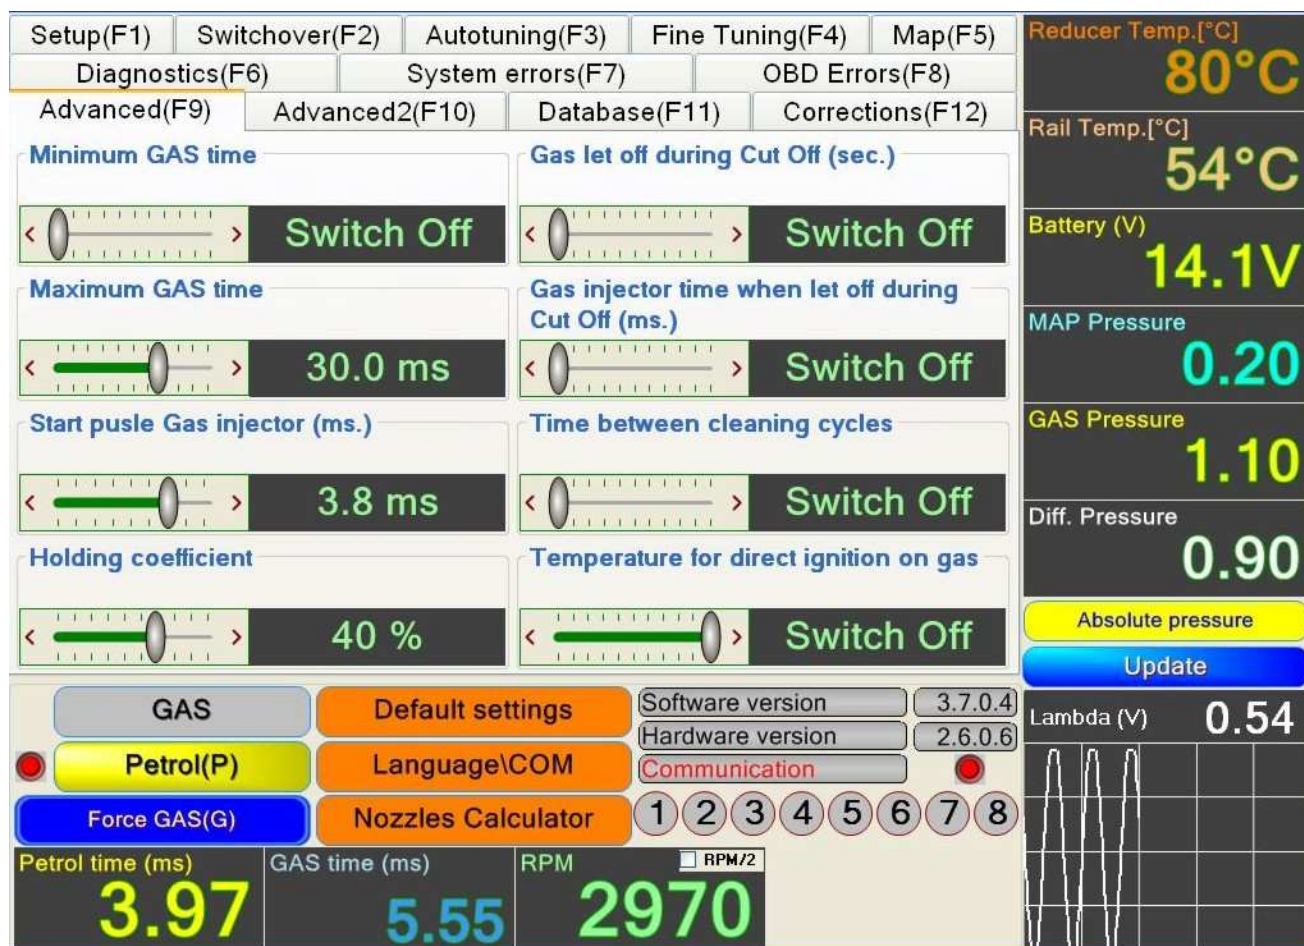
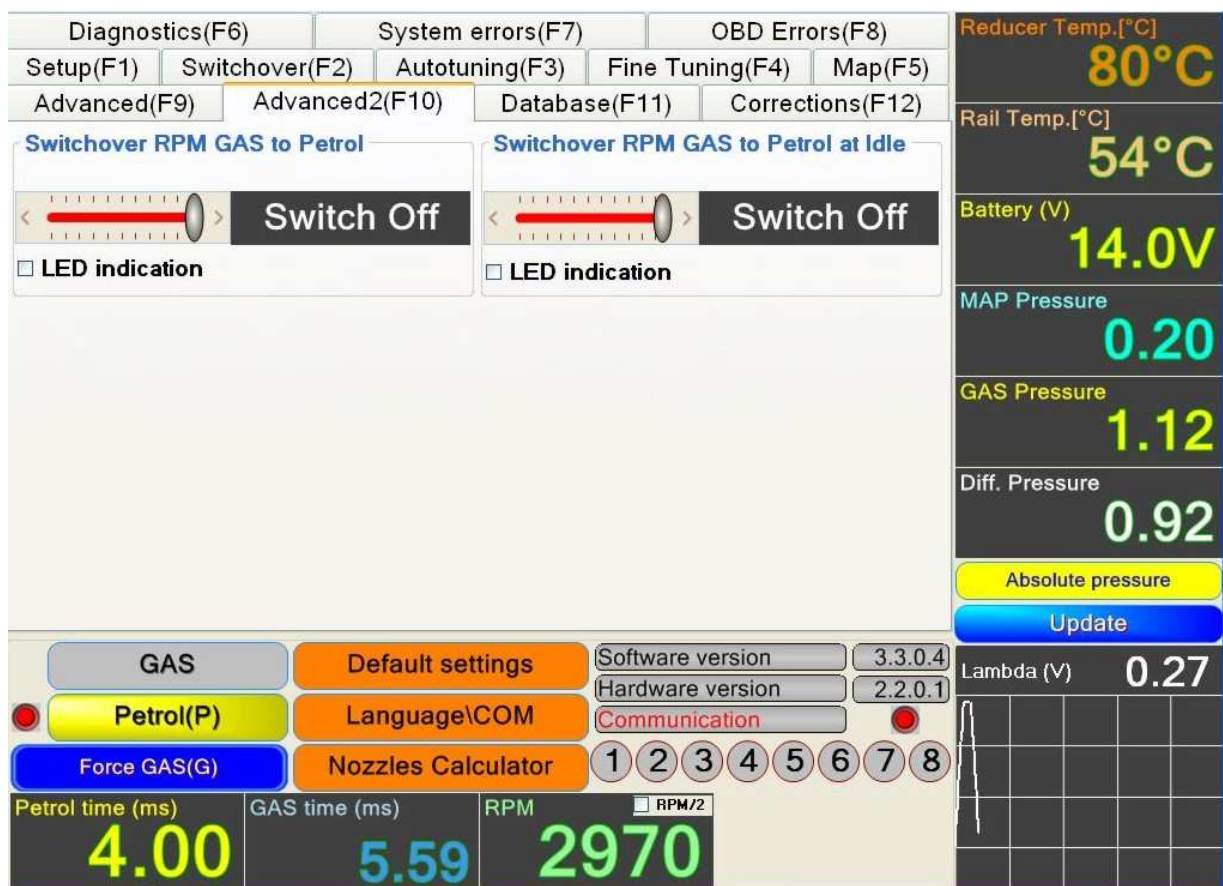

FIG.11
FIG.12
16. MENU "ADVANCED SETTINGS" (F9) - FIG.11, FIG.12 and FIG.12.1
Sliders in „Advanced setting 2” (F10) – FIG.12
- „Advanced setting 2” (F10) – FIG.12 .1 –